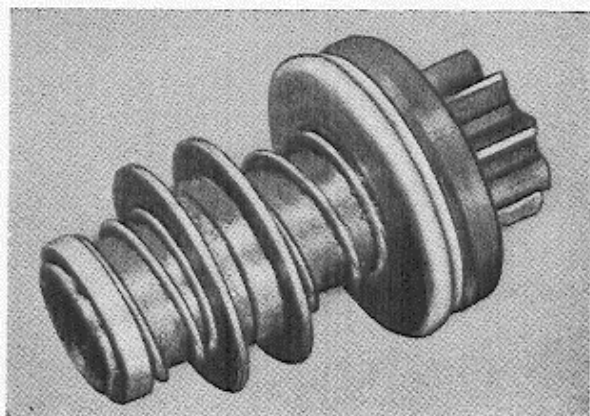

Fig. 62.
2. Fit the springs and the guide sleeve on the starter drive, see Fig. 62, as well as the coupling arm in the end head if it has been disassembled. Lubricate the starter drive and coupling arm with heat-resistant ball bearing grease.